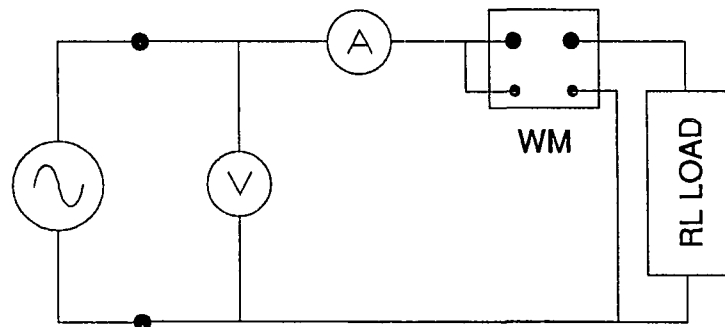

Figure 8 Measurement Setup for RL Circuit
A 60 Hz voltage supply is connected to the load shown in Figure 8. Measurements are performed, the voltmeter (V) measures 125V rms, the ammeter (A) measures 5.1A rms and the wattmeter (WM) measures 480W. The load consists of a resistor and inductor in series. Find the following: